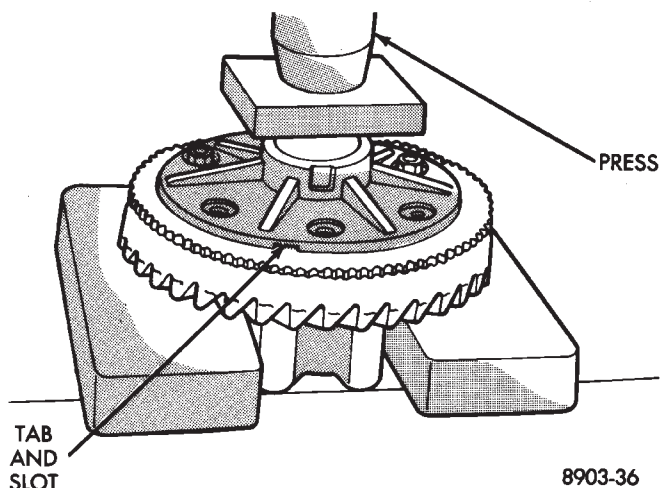

Fig. 20 Ring Gear Bolt Hole Alignment
(2) Invert the differential case and start two ring gear bolts. This will provide case to ring gear bolt hole alignment.
(3) Press the exciter ring onto the differential case using the ring gear as a pilot (Fig. 20).